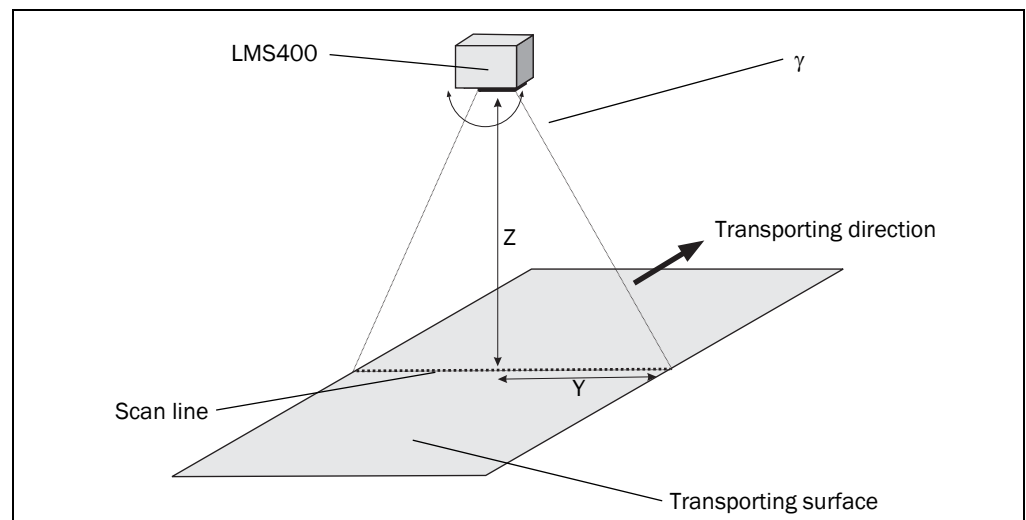

Fig. 37: Angle γ and y coordinate and z coordinate
- Enter the GAMMA, Y COORDINATE AND Z COORDINATE parameters (see Fig. 37). A rough entry is sufficient. The assistant will determine the exact parameters during the subsequent steps.